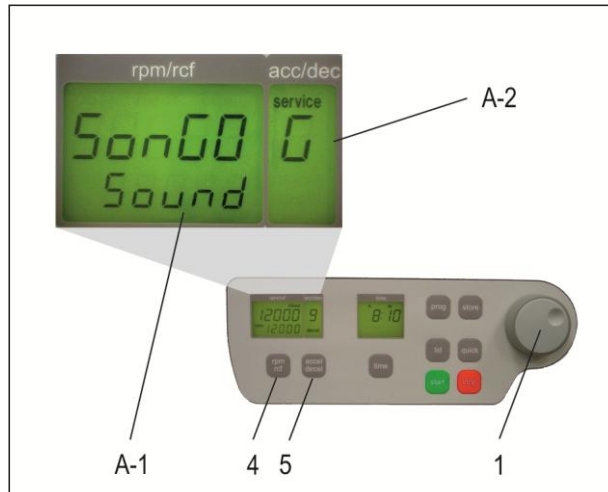

Figure 6
Proceed as illustrated, under point 1.8.1, to enter this program mode, press the key, "accel/decel" (5). In the display, "accel/decel" (A-2) flashes the word, "service". Select the letter, "G" with the adjustable knob (1). As a result, appearing in the display, "rpm/rcf" (A-1), the word "SonGo/Sound". After pressing the key "rpm/rcf" (4), select a song with the adjusting knob (1), (see Figure 6).